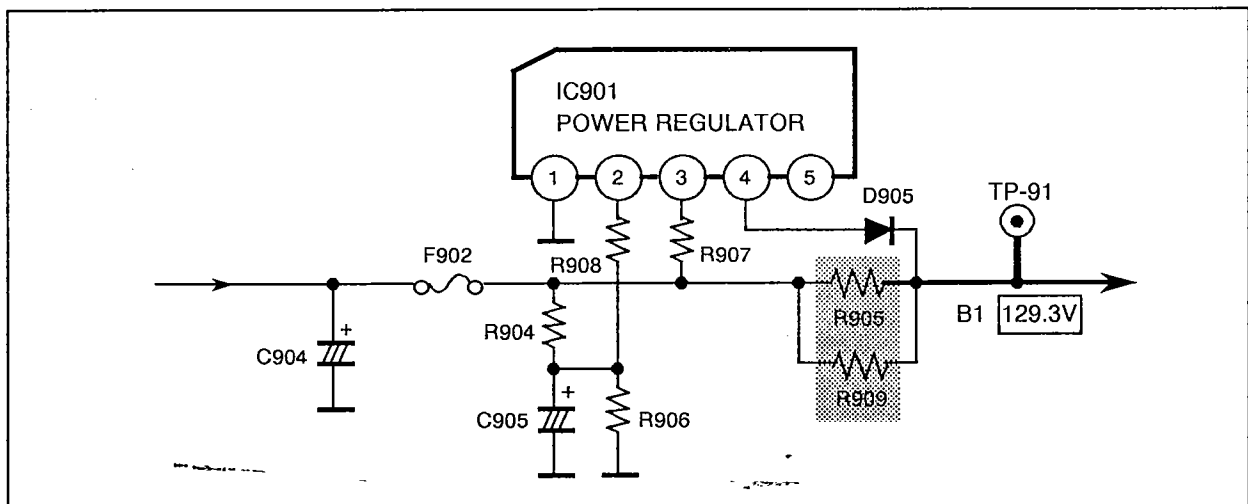

Fig. 2
- Make the short circuit across R905 and R909, (shown in Fig. 2) under normal operating condition.